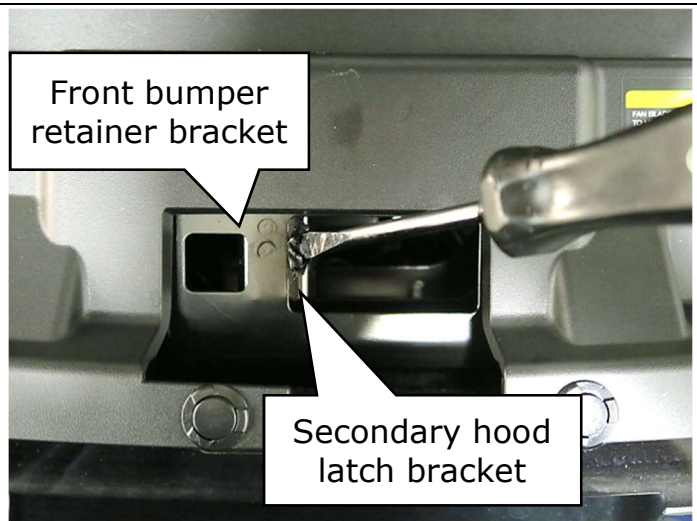

Figure 2
3. Place the tape covered flat blade screwdriver onto the secondary hood latch bracket at a 45° angle as shown in Figure 2.